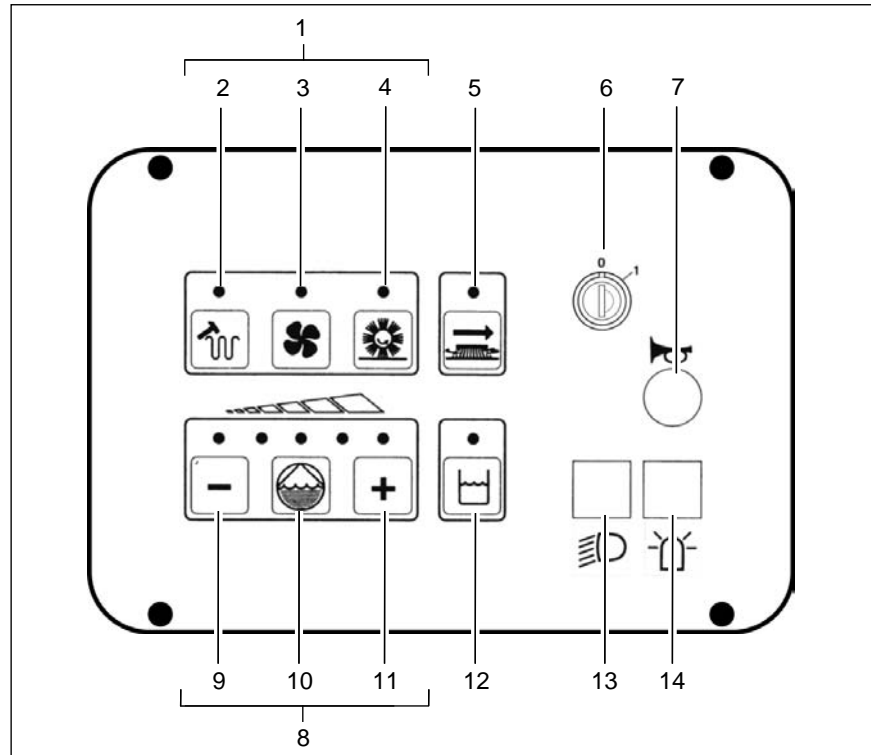

Fig. 22
When the key in the key switch is turned on, one and then two four-digit codes appear in succession (for further details, refer to page 48, Key switch (Fig. 22/6)). The operating hours appear after this.
3.2.3 Right-hand operating panel (Fig. 22)
Button for agitating device (Fig. 22/2)
Button for extractor fan (Fig. 22/3)
Button to switch the pre-sweep/vacuum unit on and off (Fig. 22/4)
(Fig. 22/6)
(Fig. 22/7)
Button for reducing the quantity of cleaning agent (Fig. 22/9)
Button to switch chemical dosage option on/off (Fig. 22/10)
Button for increasing the quantity of cleaning agent (Fig. 22/11)
Switch for working lights (Fig. 22/13)
Switch for flashing beacon (Fig. 22/14)